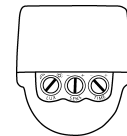

Fig. 6
2. Turn LUX knob counterclockwise to indicate sun symbol. This means that unit should operate during the day. Set SENS knob to medium (halfway) (Fig. 6).